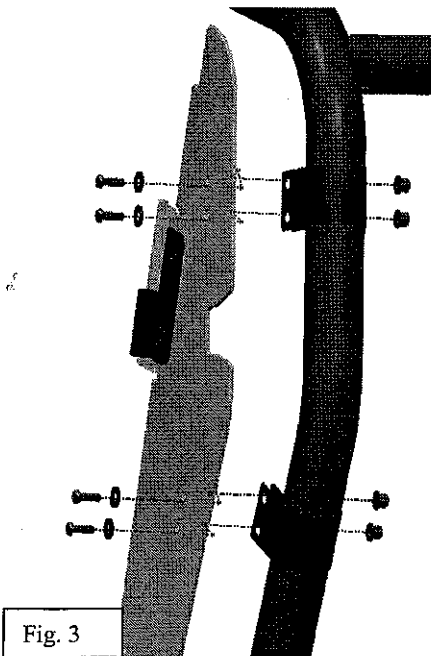

Fig. 3
3. Place (2) strap clamps into position on the frame bar as shown in Fig. 3. Fasten the strap clamps to the driver closeout bracket using (4) M6 x 25mm screws, (4) 1/4" flat washers, and (4) M6 nylock nuts.